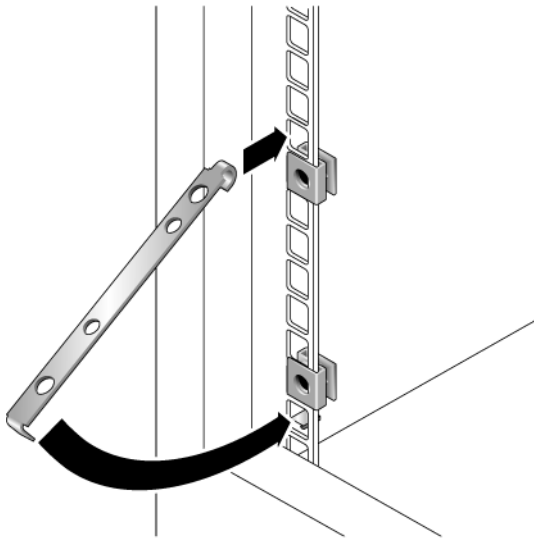

FIGURE 2-25 Inserting the Cabinet Rail Adapter Plate on the Cabinet Rail
2. Hook a cabinet rail adapter plate over the front of the cabinet rail (FIGURE 2-25). Position the adapter plate over the 3RU slot in which the tray is to be mounted.